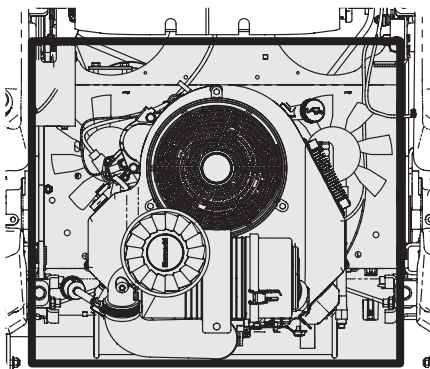

Figure 27
- Clean around the exhaust manifold, fuses, all wiring and harnesses, muffler pipe, muffler shield, engine intake screens and cooling fins, etc. See Figure 27.